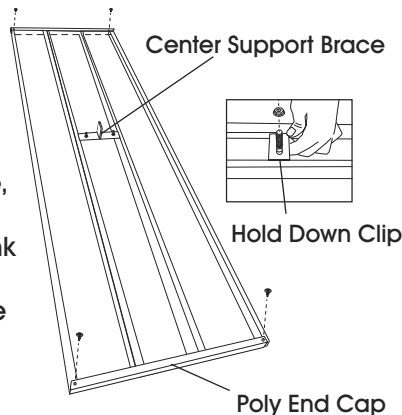

Figure 1
1. Lay three aluminum planks side by side, upside down, on a flat surface to form the tabletop. Slide the metal caps onto each end. One end cap covers the three planks. The pre-drilled holes of the end cap should be facing up. Use power drill and two self-tapping screws to secure each poly end cap onto each end of the tabletop. Loosely attach the center support brace, centered, onto the middle tabletop plank using two hold down clips, two 5/16" flange nuts and two 5/16" carriage bolts. (See Figure 1)